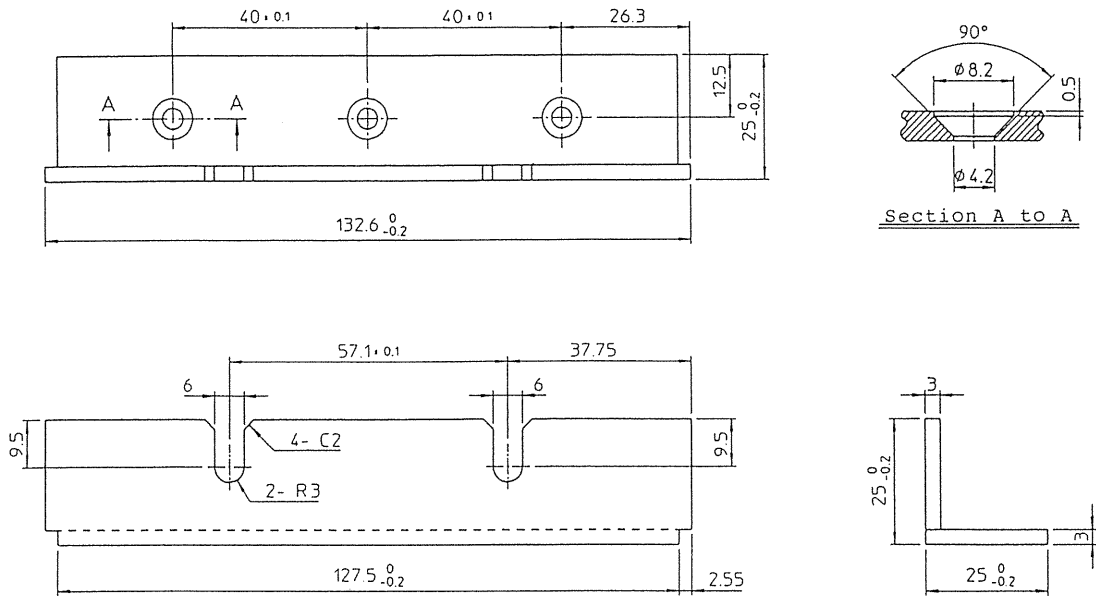

Fig. 8-6 Bracket for EIA Brackets are required each sides.
8.1 For rack mounting, attach a rack mounting brackets on the basis of the Fig.8-6 to 9.